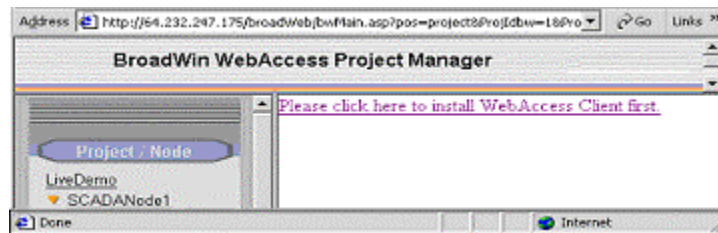

Figure 3-13 - Prompt to download and install WebAccess Client
9. If you have not already installed the Client, you will see a message (fig 3-13):